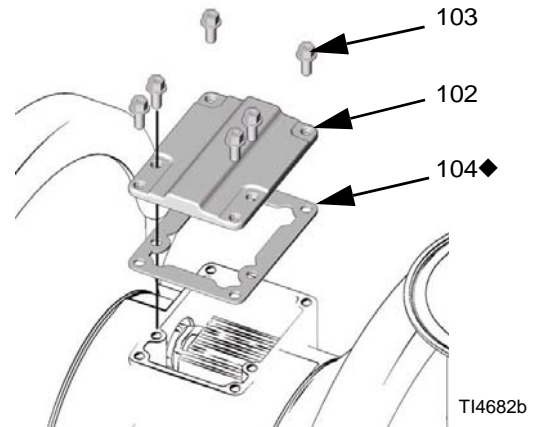

FIG. 12
- Align the valve gasket (104) and cover (102) with the six holes in the center housing (101). Secure with six screws (103), using a Torx (T20) screwdriver or 7 mm (9/32 in.) socket wrench. Torque to 5.7-6.8 N•m (50-60 in-lb). See FIG. 12.